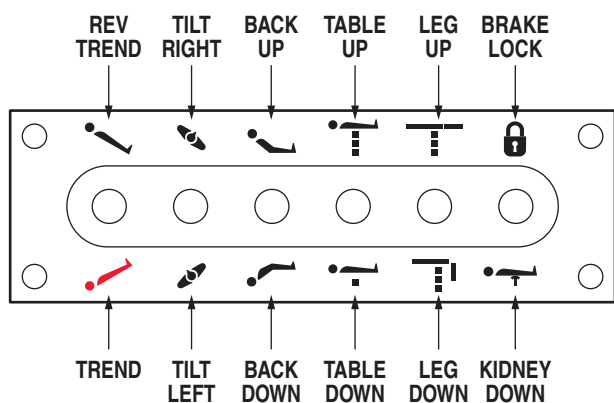

Figure 2-18. Emergency Back-Up Controls
b. In the event of either a power failure or a problem with the hand-held pendant control, the table can be operated using the emergency back-up switches. Simply push the desired emergency switch in the appropriate direction to operate the table functions. See figure 2-18.